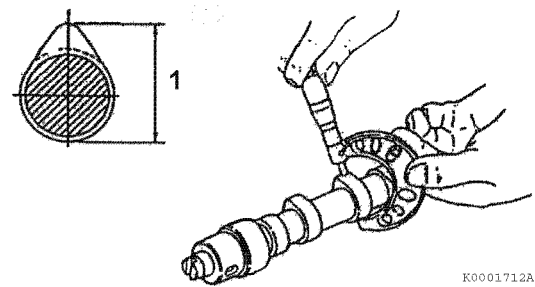

Figure 6-125
3. Measure the height of each lobe (1, **Figure 6-125**). See *Camshaft* on page 6-8 for specifications.